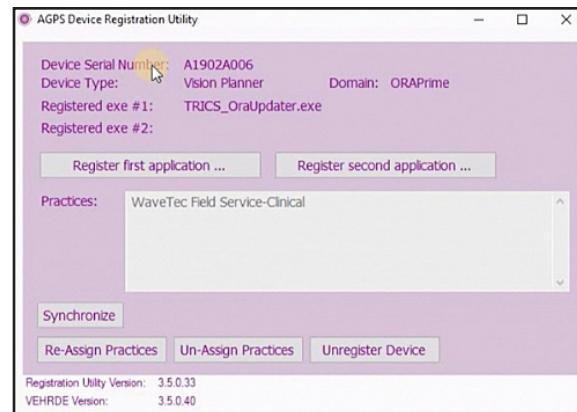

Figure 2-25 Registration Synchronization Screen
The device begins synchronization and displays the screen shown in **Figure 2-25** when complete.
- 10.14 The device begins synchronization and displays the screen shown in Figure 2-25 when complete.